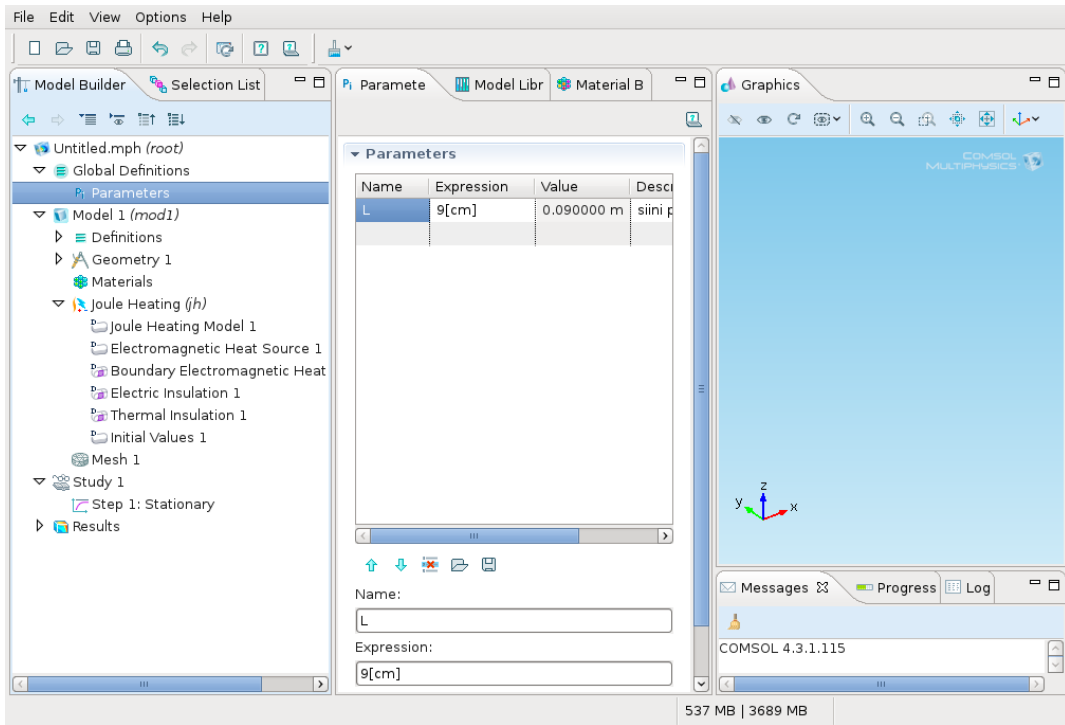

Figure 6: The table of the global parameters.
- 1 **Global Definitions: right button** → **Parameters**. Click on the first cell in the *Name* Column and enter *L*(Fig. 6).